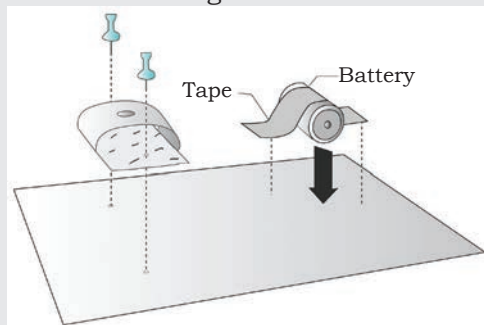

Fig. 1 Cardboard circuit
3. Use the tip of a pen to widen the holes, and then, use brads to lock the bulb holder in place on the circuit board as shown in Fig.1.